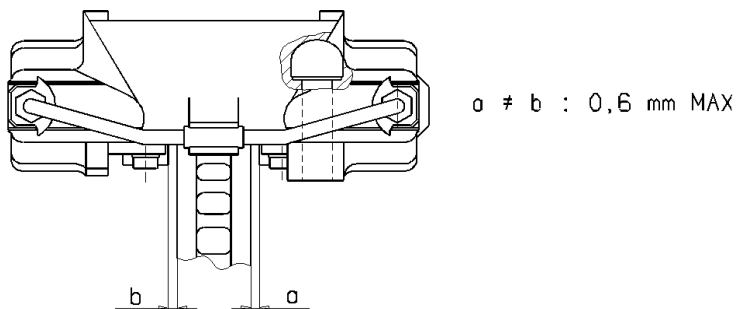

Fig. 2
- The caliper must be mounted in a symmetrical position with respect to the disc center line: the difference between the dimensions "a" and "b" must be 0,6 mm MAX (see fig. 2).